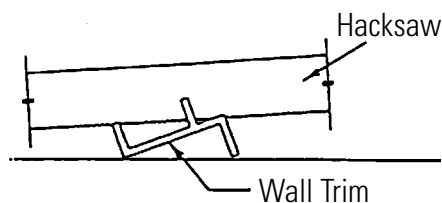
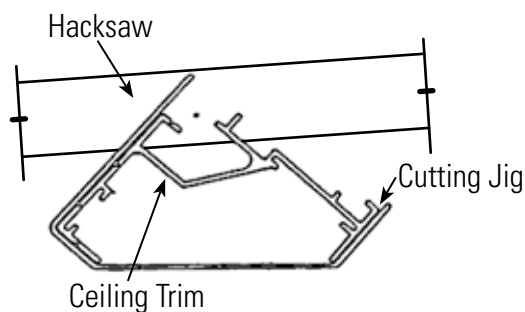

Figure 11
Figure 12
2. Remove the wall and ceiling trim from the fixture and cut them to the measured length using the cutting jig. (Fig. 11 & Fig. 12) The socket channel straps must be removed before the trim. (Fig. 13)